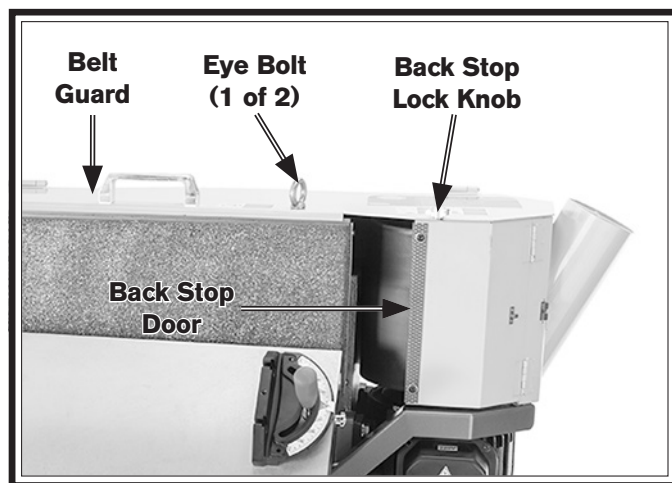

Figure 14. Lifting eye bolts and access door components.
1. Remove (2) eye bolts used for lifting (see **Figure 14**).
2. Loosen back stop lock knob (see **Figure 14**) and open belt guard and back stop door.